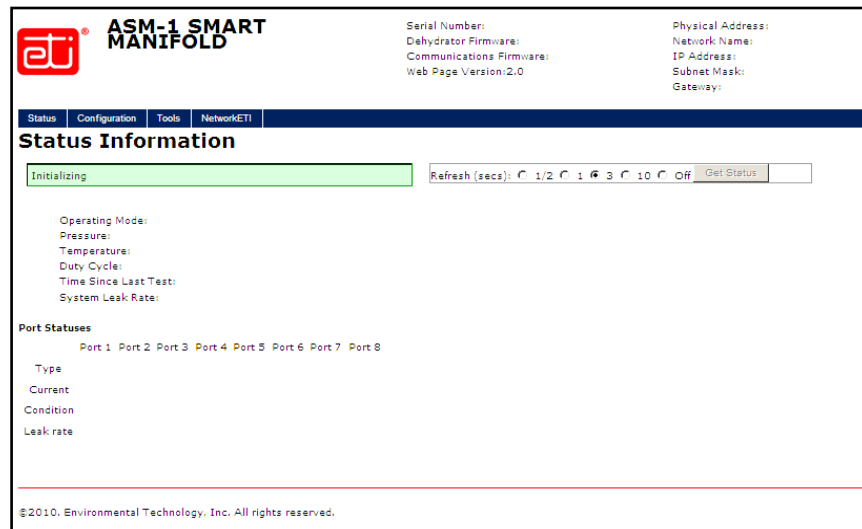

Figure 17. THE SMART MANIFOLD MAIN PAGE.
1. Using an Ethernet cable, connect to the Smart Manifold directly from a PC. A cross-over cable or switch is recommended. Use a web browser to call up the Smart Manifold using the default IP address 192.168.52.9. The Main or Status page will be displayed. Refer to Figure 17.